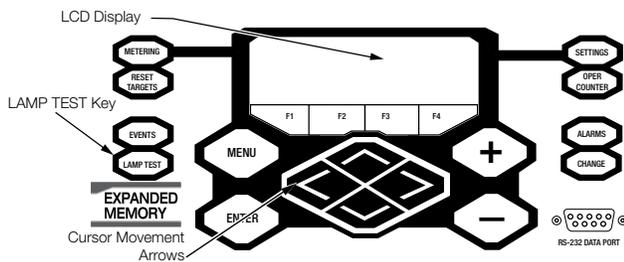

Figure 39. Lamp Test button, LCD display, and cursor movement arrows.
1. Verify operating status of all indicator lights by pressing and holding the LAMP TEST key for two seconds on the programming panel (Figure 39).